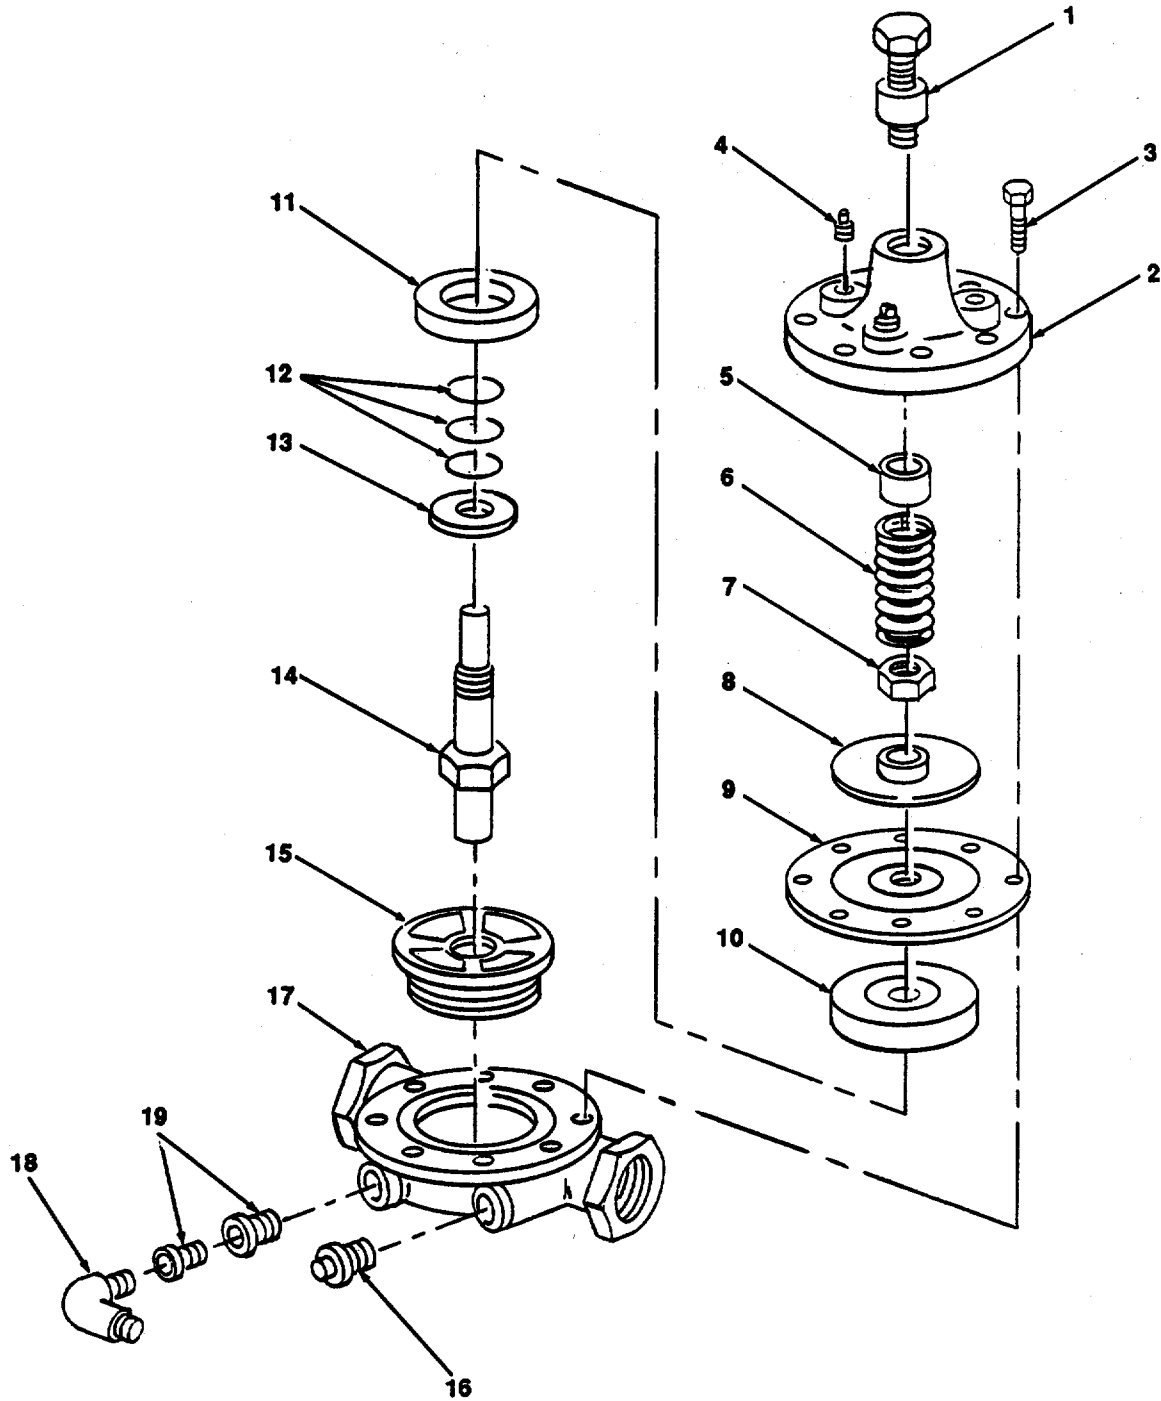

Figure 4-14. Automatic Drain Valve, Repair.
b. Repair. (figure 4-14)
- (1) Unscrew and remove straight adapter (1) from cover (2).
- (2) Remove eight bolts (3) and cover (2).
- (3) Remove two pipe plugs (4) from cover (2).
- (4) Remove cover and unscrew bearing (5).
- (5) Remove spring (6), stem nut (7), diaphragm washer (8), diaphragm (9), disc retainer (10), and disc (11).
- (6) Remove three spacer washers (12), and one guide disc (13).
- (7) Remove stem (14), seat (15).
- (8) Remove pipe plug (16) from body (17).
- (9) Remove elbow (18) and pipe bushings (19) from body (17).